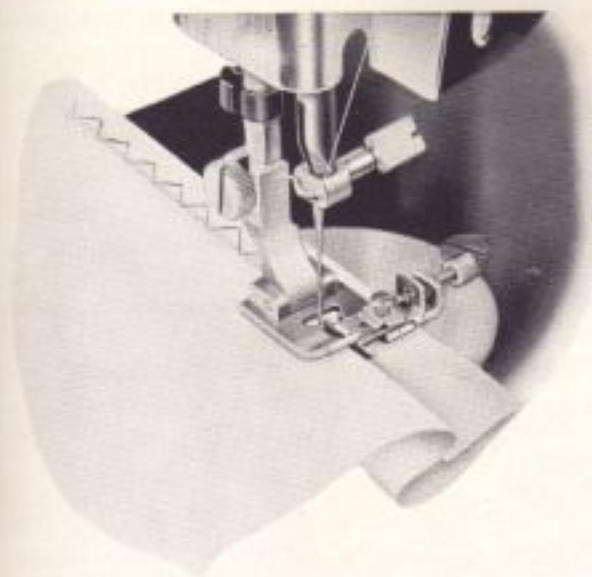

Fig. 56
9. Fold under entire width of prepared hem, right sides together, and allow approximately $\frac{1}{4}$ inch of seam binding to protrude beyond fold on the wrong side, then place hem of garment under the Blindstitch Foot (see Fig. 56).